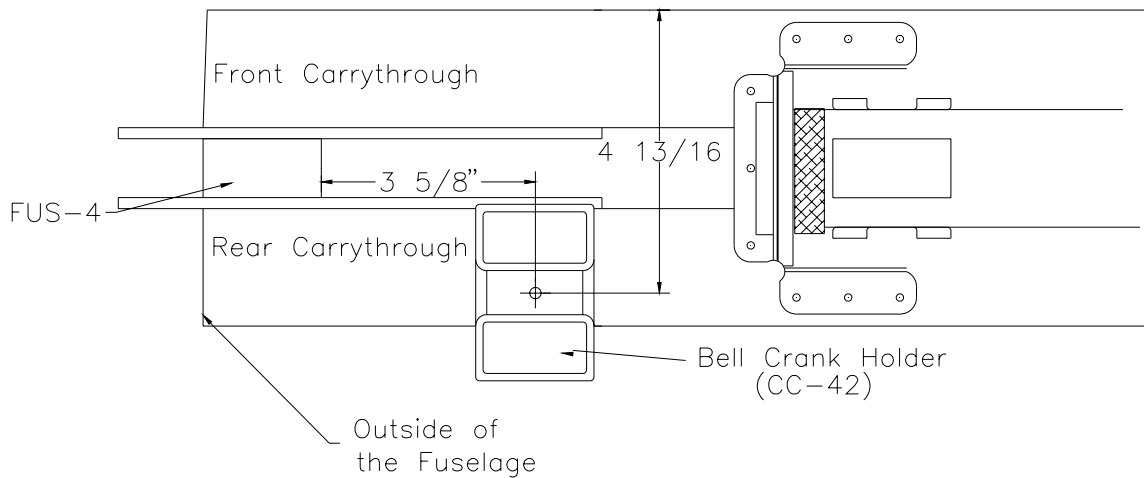

Figure 20.4.1
1) Position the bell crank holder (CC-42) as per figure 20.4.1.